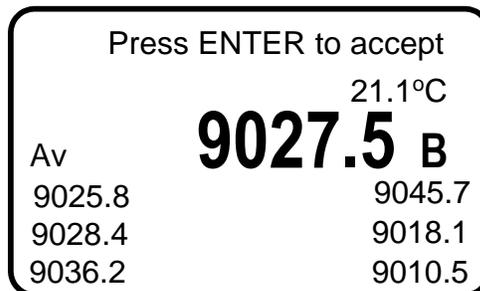

FIGURE 5-4 STORING A READING WITH 6 SENSORS
4. If the unit has more than once sensor, the unit will display both average readings (in bold) and individual readings (Figure 5-4).